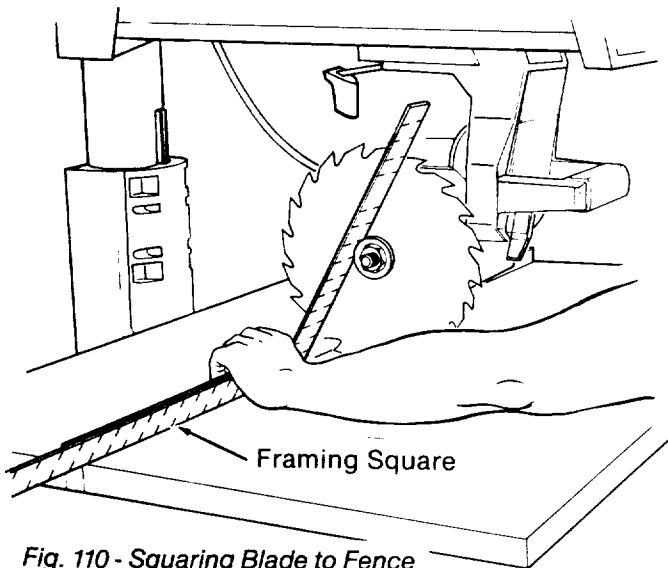

Fig. 110 - Squaring Blade to Fence
1. Put the *radial arm* in the 0° miter position with the *blade* just in front of the *fence*. (Figure 110)
3. Place the framing square with the long edge against **both** the *fence* and the *table*, and the short edge against the *blade* just above the *arbor shaft*. Make sure that the edge of the square is on the *blade* and not on the set of a tooth. (Figure 110)